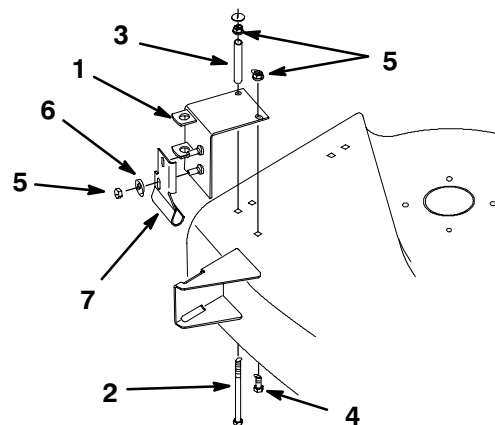

Figure 5
1. Locate the pivot support on the mower over square holes near the discharge opening (Fig. 5).
3. Secure the pivot support to the top of the mower with a 5/16 x 4-1/2" bolt, spacer tube and 5/16 x 7/8" bolt (from the underside of mower) and 5/16" lock nuts (Fig. 5).
4. Secure the pivot bracket to the pivot support with (2) 5/16" washers and (2) 5/16" lock nuts (Fig. 5).